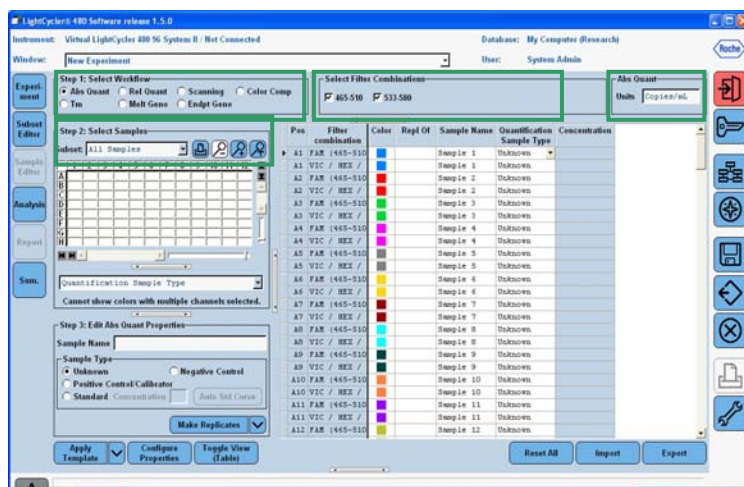

FIG.7
- In the **STEP 1: SELECT WORKFLOW** field Select **ABS QUANT** (Fig.7).